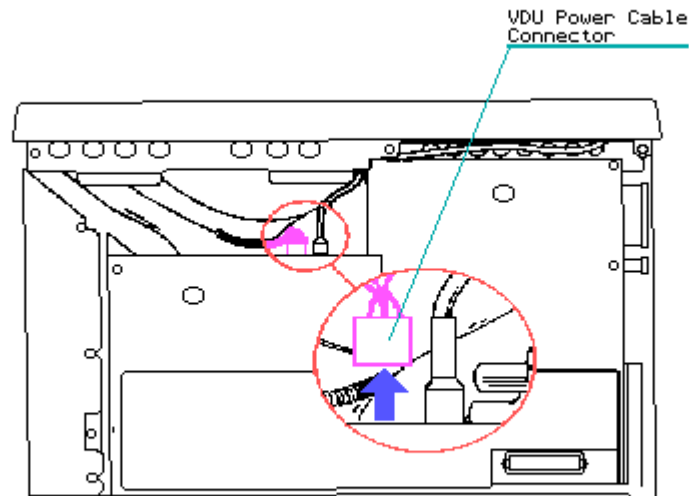

Figure 7-63. Disconnecting the VDU Power Cable
2. Disconnect the VDU power cable (Figure 7-63).